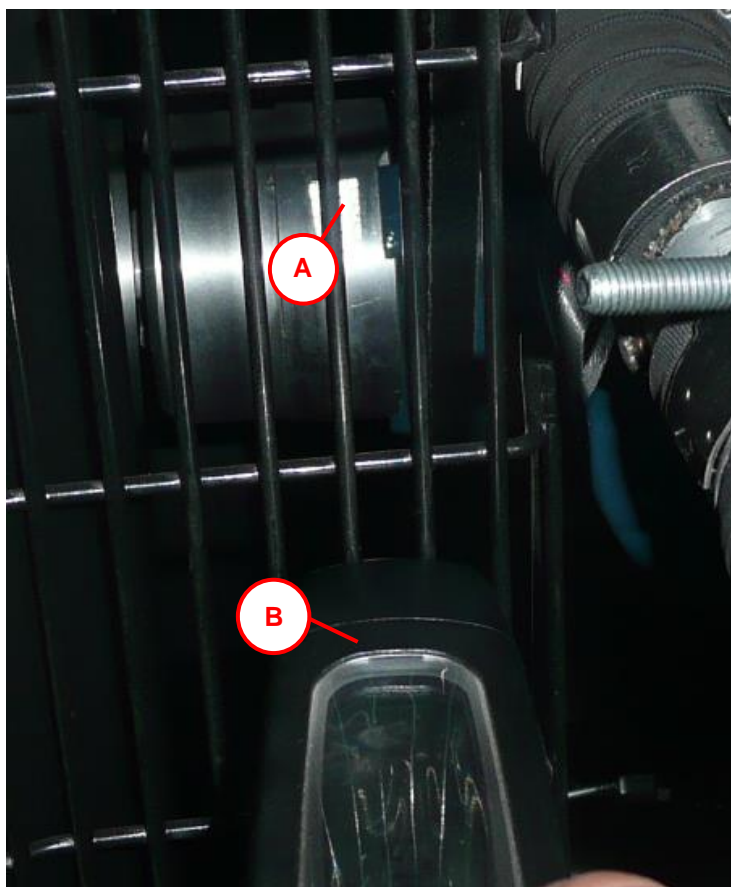

Figure 11.1.2 Measurement speed rotating motor hub
- 8) Measure with a optical tachometer (Letter B in Figure 11.1.2) the speed of rotation (in revolutions / minute) of the motor hub focusing the optical beam on the speedometer notch reflective (Letter A in Figure 11.1.2)